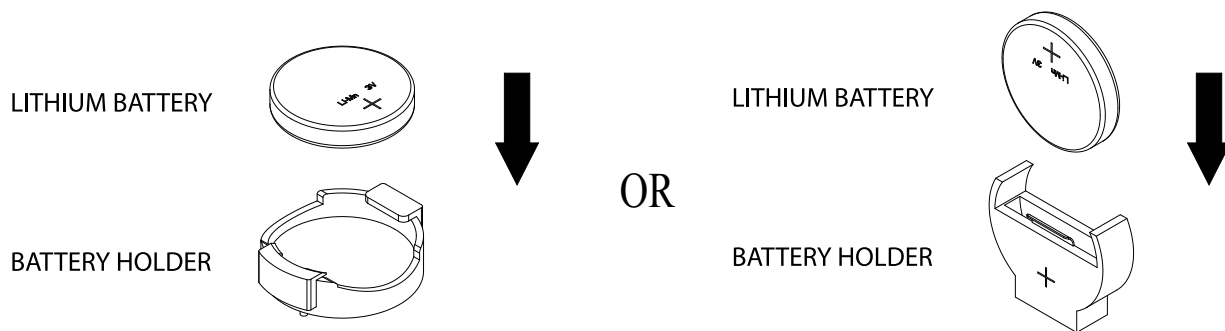

Figure 3-1. Battery Installation
2. Locate the onboard battery (see Figure 3-1).